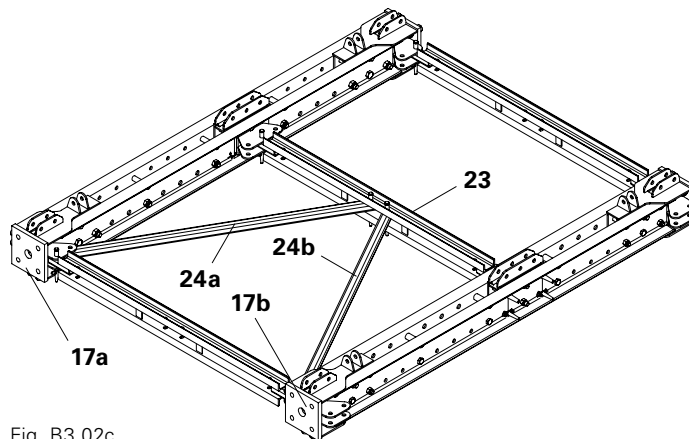

Fig. B3.02c
5. Secure both Diagonal Struts VST 200/150 (24)* to the Horizontal Ledgers VST 200 (23) using 1x Fitting Pin \varnothing 21 mm (9) respectively. (Fig. B3.02c)